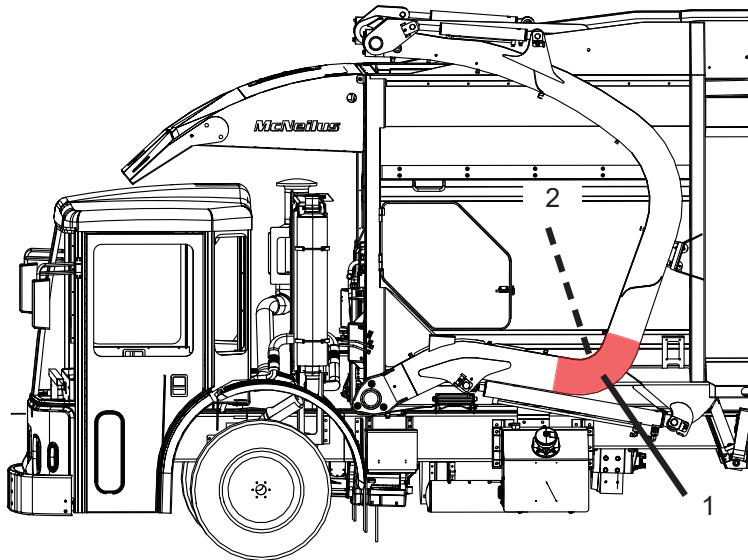

Figure 2
5. Inspect for visible cracking at the rear bend radius of the arm starting with the street side outside face (Figure 2, Item 1). Also inspect the inside face of the street side arm in the same general area (Figure 2, Item 2).